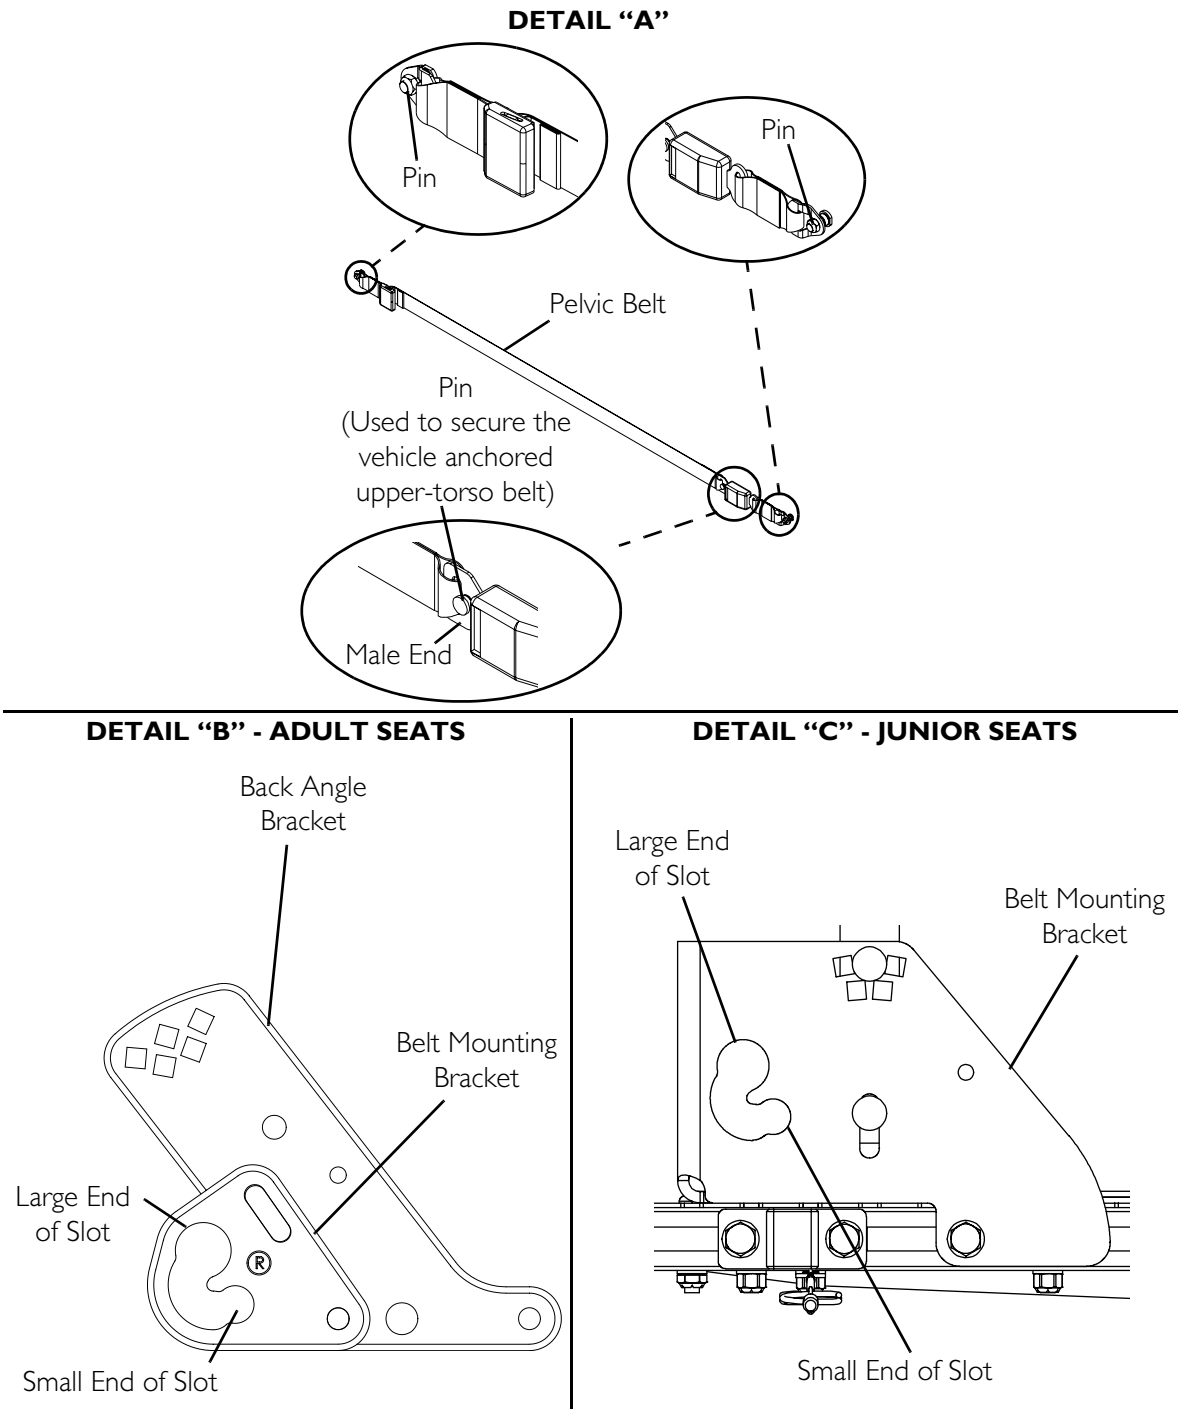

FIGURE 18.2 Wheelchair-Anchored Belts
NOTE: For this procedure, refer to FIGURE 18.2.
1. Install the pelvic belt pin (Detail "A" of FIGURE 18.2) into the large end of the slot in the belt mounting bracket (Detail "B" or Detail "C"). Rotate downward and forward until it snaps into place into the small end of the slot.
NOTE: Note the position of the male end of the belt when installing the pelvic belt onto the belt mounting brackets. The male end of the pelvic belt (Detail "A" of FIGURE 18.2) has a pin which is used to secure the vehicle-anchored upper-torso belt.